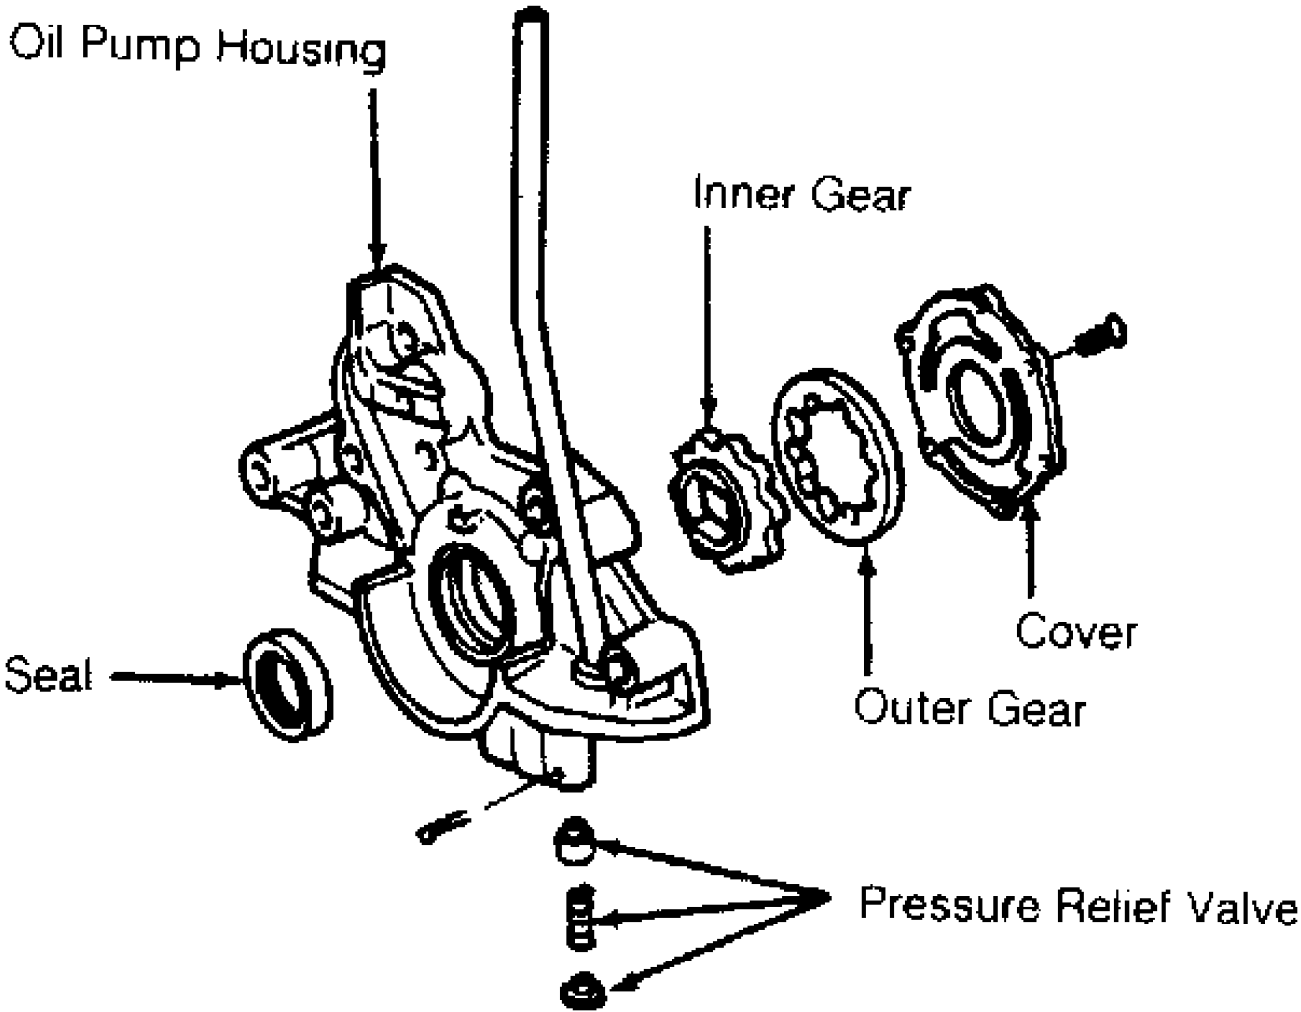

Fig. 15: Exploded View Of Oil Pump
3) Remove oil pan and oil pump pick-up tube. See OIL PAN under REMOVAL & INSTALLATION. Remove oil pump housing assembly. See Fig. 15. Carefully clean all gaskets and sealant from mating surfaces without damaging sealing/mating surfaces. Remove all sealant from components and bolts. Check oil pump clearances. Repair or replace pump if necessary. See OIL PUMP SPECIFICATIONS table.